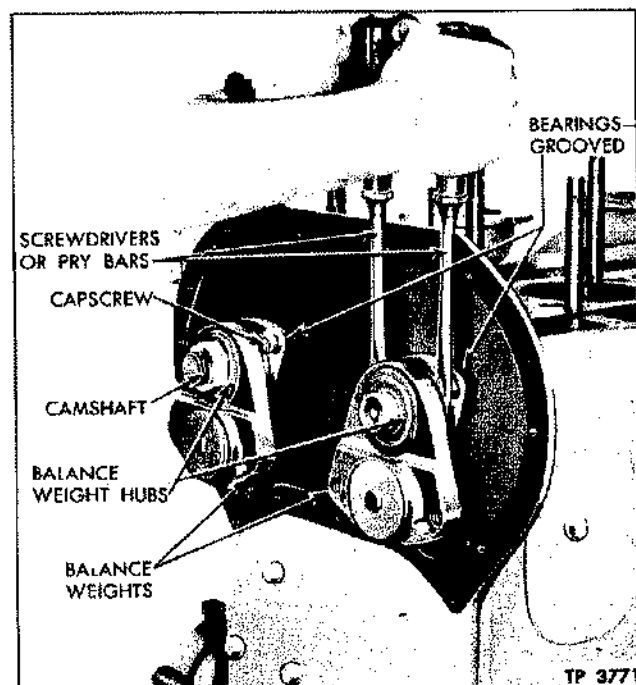

**Figure 61—Loosening Cam and Balancer Shaft
4. Wedge a block of wood between balance weights to prevent rotation; then loosen nuts at both ends of shafts with socket wrench, as shown in figure 61.
5. Wedge a block of wood between balance weights, as shown in figure 61 and tighten the lock nuts, using a 1½" socket wrench.